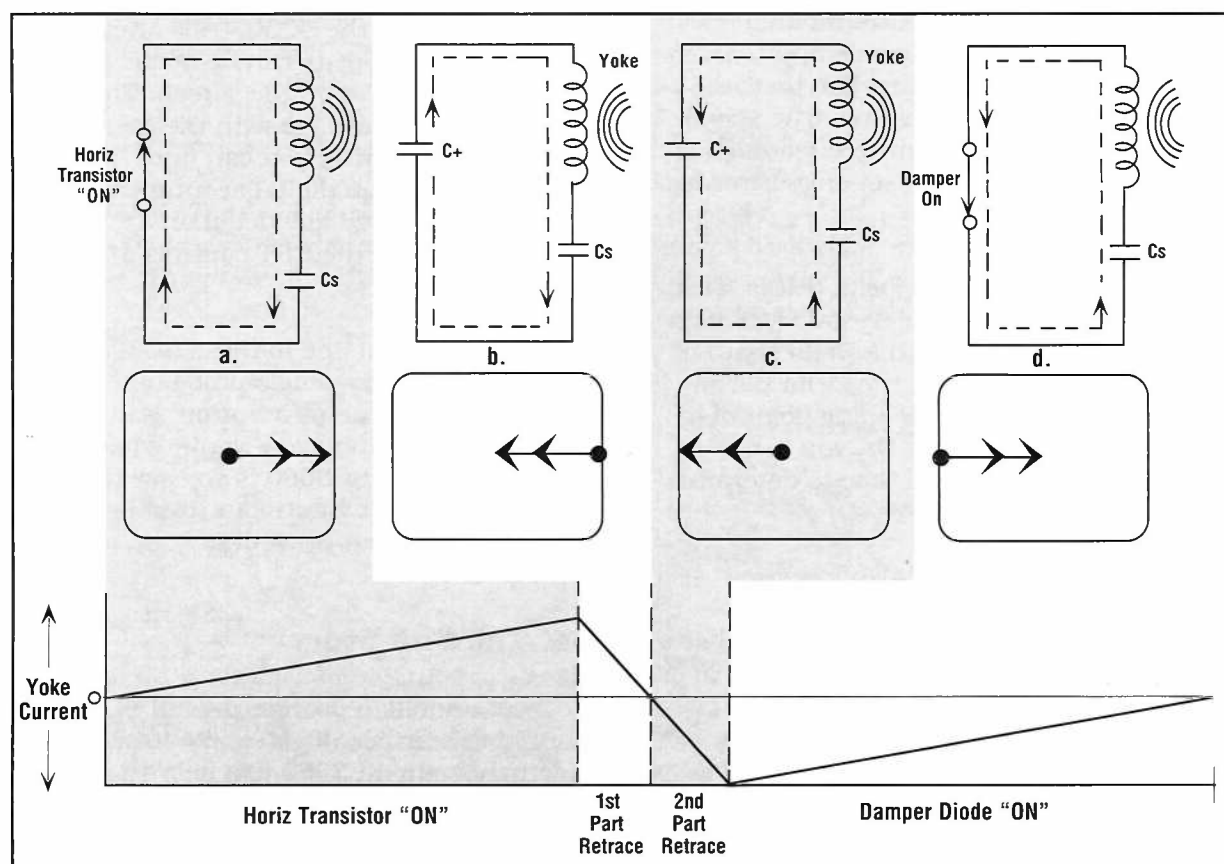

Fig. 7 - These simplified circuits show the deflection current and position of the beam for one complete horizontal cycle.
**Fig. 7: The 2000 volt peak-to-peak (or 2000 volt DC) measuring range of the SC3080 lets you measure any signal; patented circuits protect the input for any attenuator setting.**
Figure 7 shows the yoke deflection current at 4 different times during one horizontal cycle.